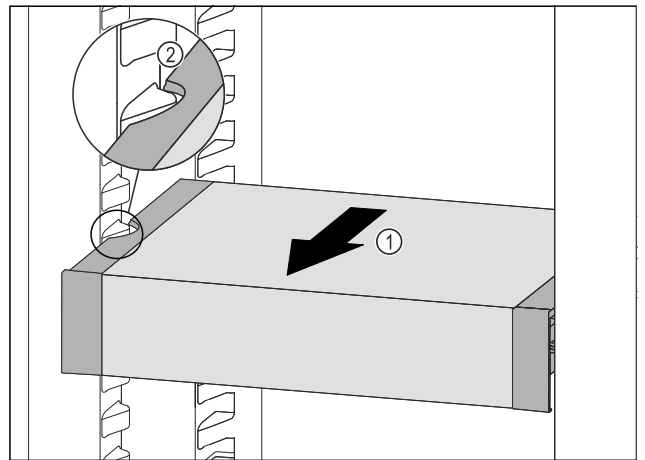

Fig. 138
- Pull VarioSafe forwards Fig. 138 (1) until the recesses in the side of the VarioSafe are at the level of the support rib in the fridge section. Fig. 138 (2)